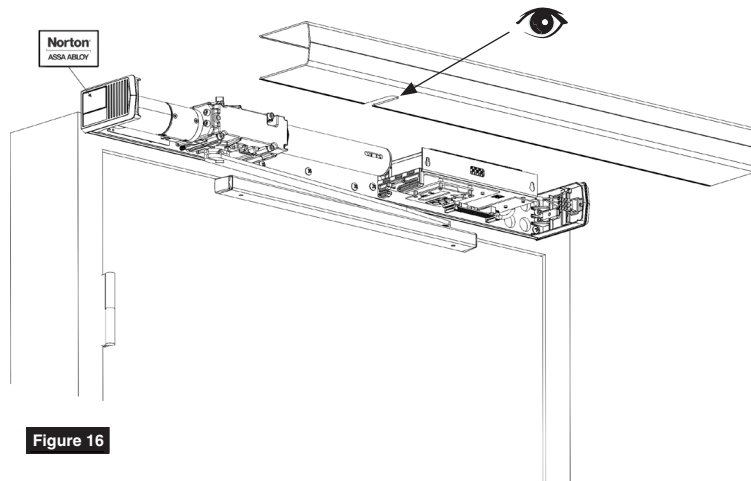

Figure 16
1. Align cut-outs in cover to pinion shafts. (Figure 16)
4. Attach a Norton label plate to each end cap by snapping into place by hand with gentle pressure. (Figure 16)